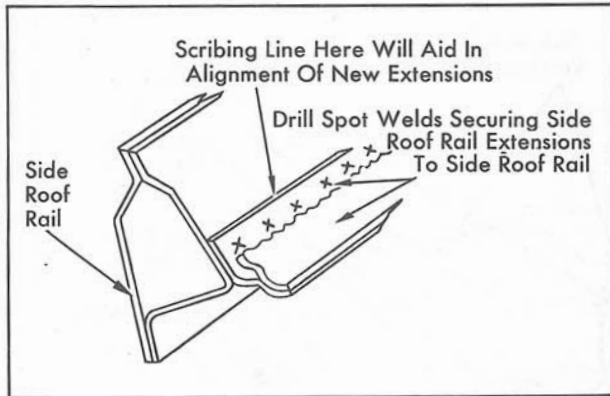

Fig. 17-72 Removal of Side Roof Rail Extension
c. Welds securing side roof rail extensions to side roof rail, Fig. 17-72.